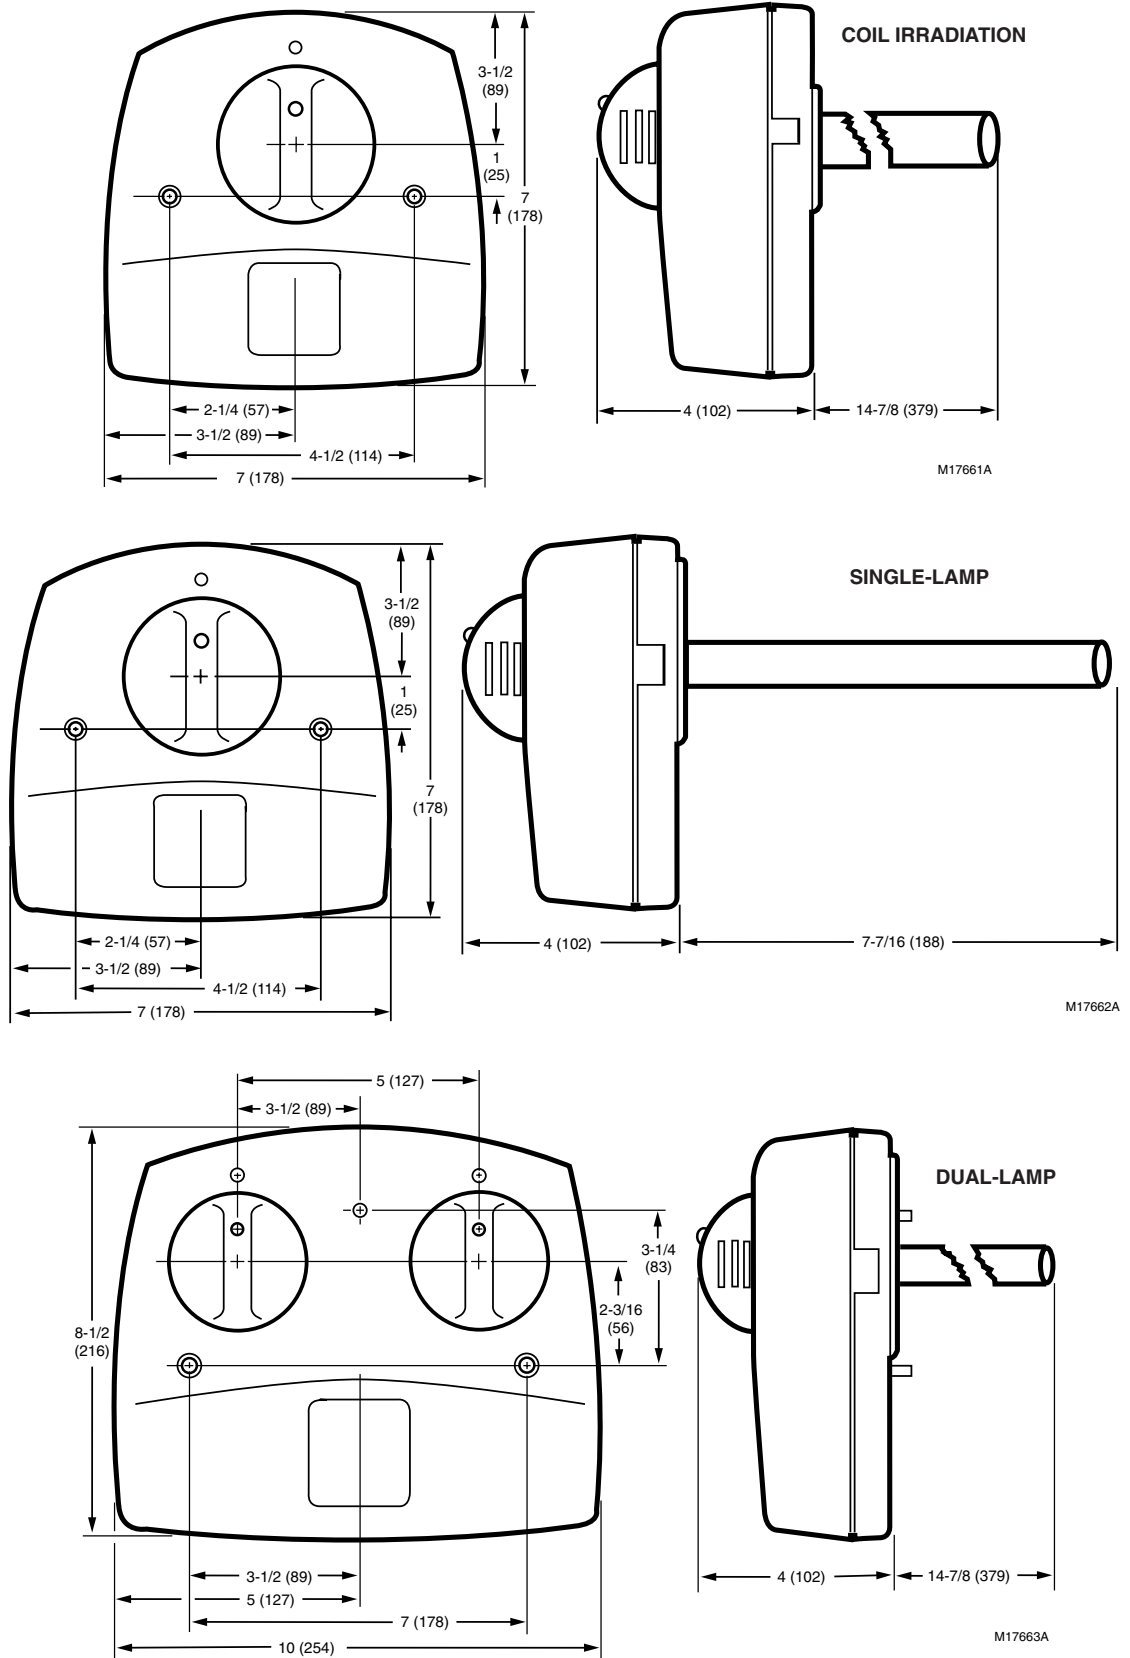

Fig. 2. Ultraviolet Air Treatment System dimensions in in. (mm).
See Fig. 2.
3. Allow clearance in front of the device for removing the lamp assemblies. See Fig. 2 for lamp assembly lengths.
- b. The duct mounting location must be a minimum of 8 in. wide. See Fig. 2.
- c. The depth of the duct must accommodate the full length of the ultraviolet lamp for your model as shown in Fig. 2.